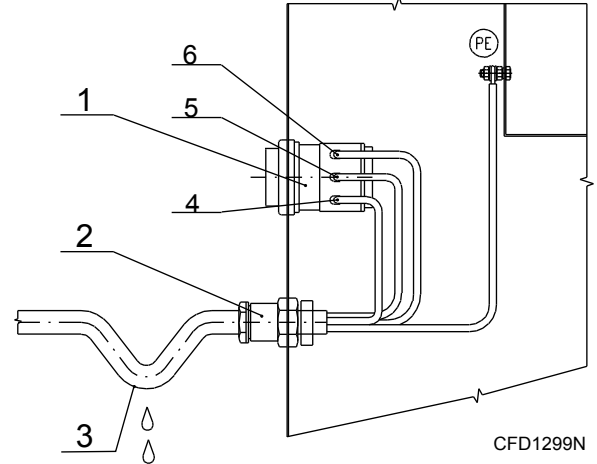
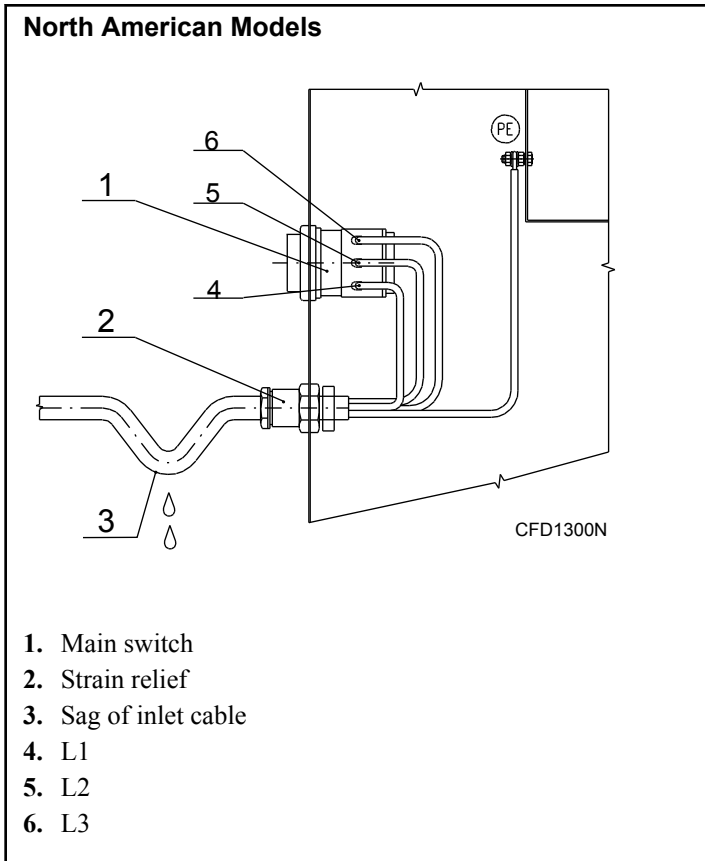

Figure 43
Figure 44
3. With stranded conductors, use wire end tubes with an insulated sleeve (6) for L1/U, (L2/V), (L3/W), (N) conductors. Make sure there is no accidental contact, since the supply cable stays under voltage even when the main switch is off.
6. Connect the supply cable conductors to the incoming terminals (main switch [1]), marked with L1/U, (L2/V), (L3/W), (N) and the terminal marked with PE. Refer to *Figure 43* or *Figure 44* .
7. Provide a sag in the cable, in front of the strain relief. This will prevent condensed water from dripping into the machine. Refer to *Figure 43* or *Figure 44*.